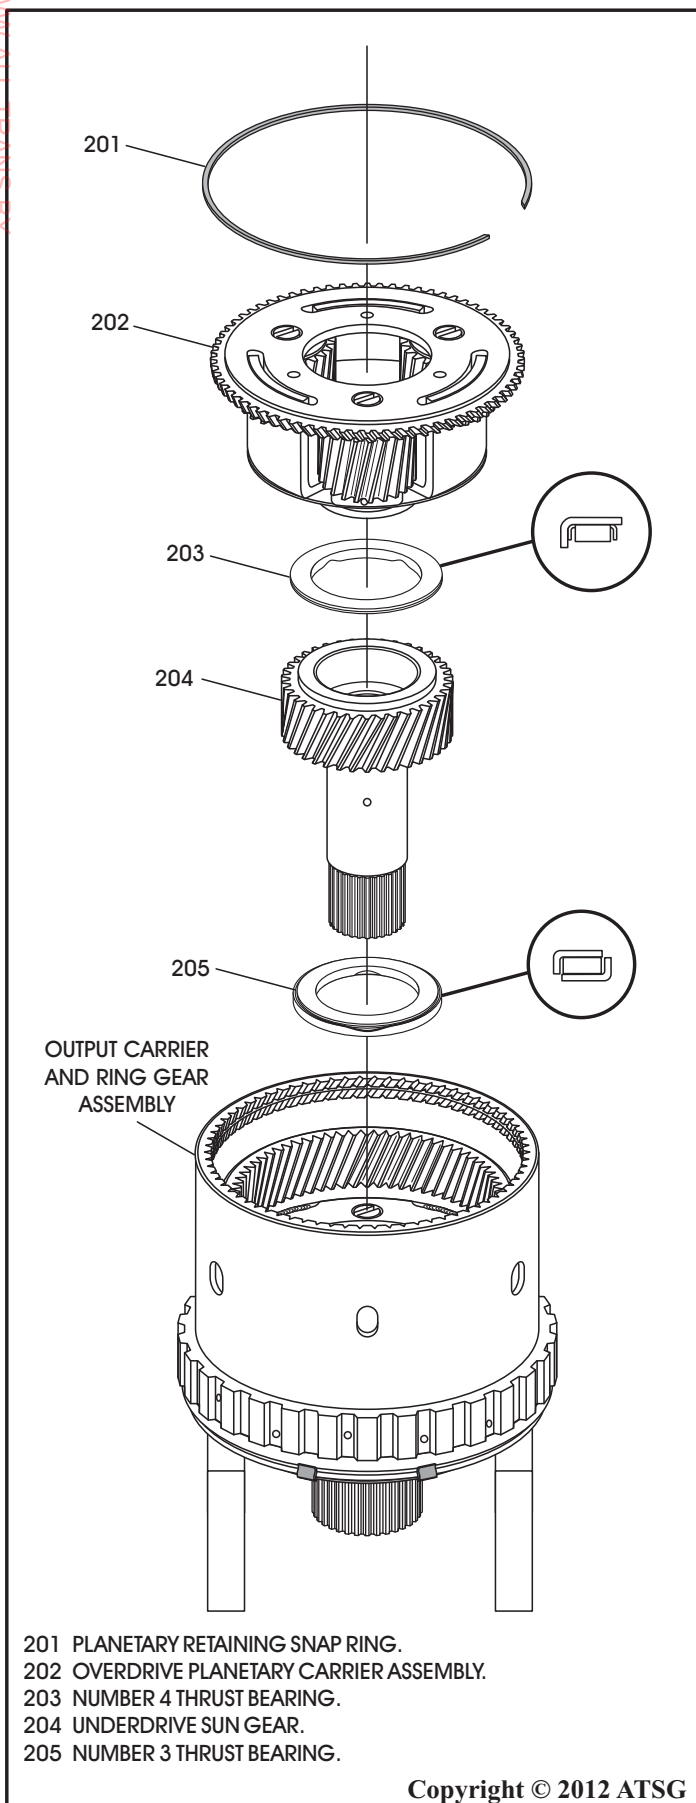

Figure 142
13. Install the number 3 thrust bearing into the output planetary carrier in the direction shown in Figure 142.
14. Install the underdrive sun gear into the output planetary carrier in the direction shown in Figure 142, and rotate into position to engage into planetary gears.
15. Ensure the number 4 thrust bearing (203) is still in place in the overdrive carrier (202). Refer to Figure 142.
16. Install the overdrive carrier and the number 4 thrust bearing as an assembly, by rotating into position, as shown in Figure 142.
17. Install the overdrive carrier retaining snap ring, as shown in Figure 142, and ensure that it is fully seated.